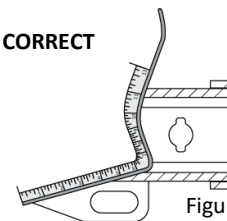

Figure 1
Insert Trailer Ball Mount (TBM) (a) into towbar hitchbox (b), aligning hole in TBM shank (c) with hole in hitchbox (d) (Fig. 1)
- Measure from bottom edge along bumper and around corner to the 70 mm point (Figure 1).